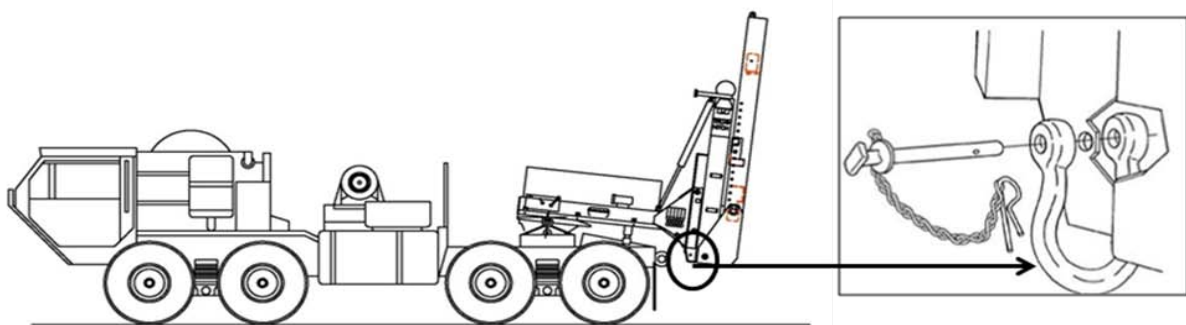

Figure 3 - Clevis with pins and Mast Pivot Alignment Figures
3. Remove left side and right side safety clevises from mast assembly (figure 3). Set aside for re-installation in step 8.